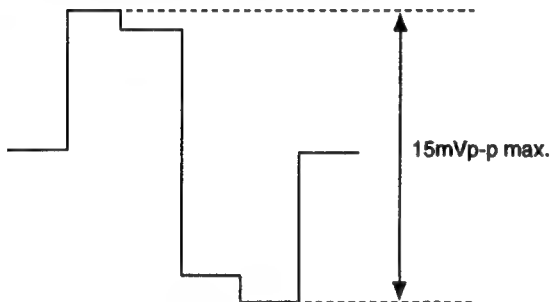

Fig. 5-11
3. Connect the probe of an oscilloscope to IC404 ⑩ PIN or TP402.
5. Adjust **SUB PHASE** so that the output waveform will be minimum (15 mVp-p or less). (Fig.5-11)
4. Adjust **SUB PHASE** so that the output waveform will be minimum (15 mVp-p or less). (Fig.5-11)